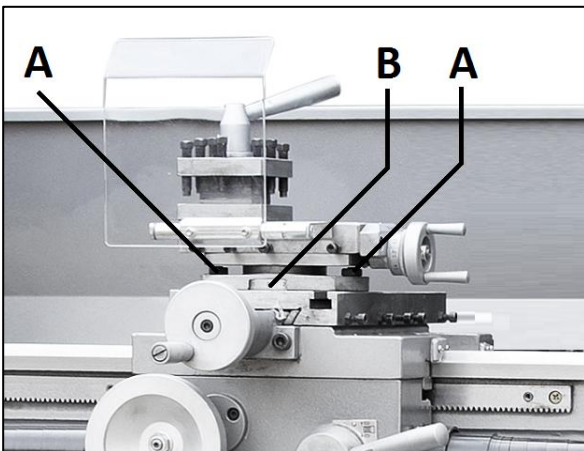

Figure 8-4: Taper turning with top slide
Loosen two hex nuts (A, Fig 8-4) and rotate the top slide according to the graduated scale (B).